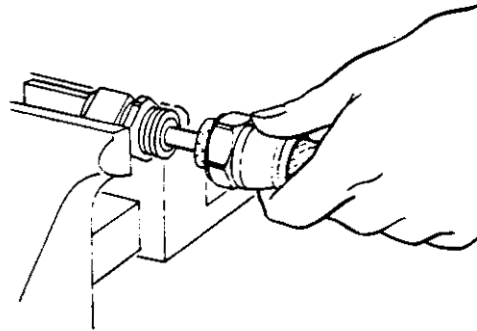

Figure 16. Sizing Tube to Sleeve
- Step 5. Size tube to sleeve. Size tube to sleeve by pushing hose onto the nipple until the sleeve bottoms against the nipple chamfer. Remove and recheck to be certain that the sleeve is still properly positioned. Again push hose onto the nipple until the sleeve is bottomed against the nipple chamfer. (See Figure 16.)